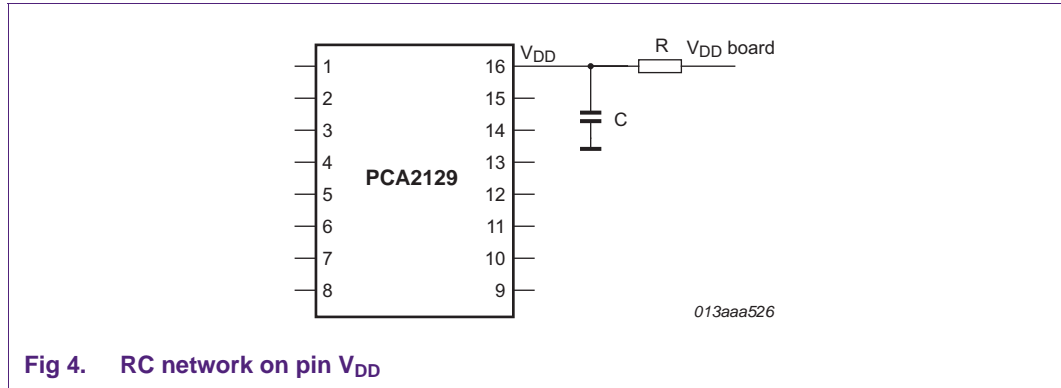

Fig 4. RC network on pin VDD
- higher than some mA it is recommended to add an RC network on the V_{DD} pin, as shown in Figure 4.